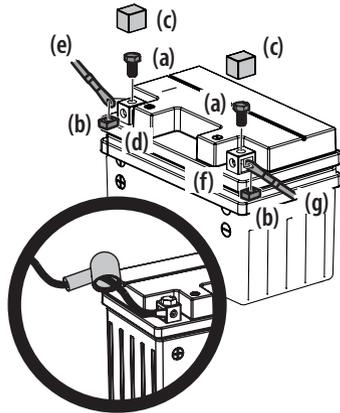

Figure 13
1. Remove the factory installed hex screws (a) and square nuts (b) located either on the end of the wiring harness or in the bag with this manual. Retain the hardware for later instructions. See Figure 13.
2. Remove the plastic cover (c), if present, from the positive battery terminal (d) and attach the red cable (e) to the positive battery terminal (d) with one of the hex screws (a) and square nuts (b), from Step 1. Use a Phillips screw driver. See Figure 13.
3. Position the red rubber boot over the positive battery terminal to help protect it from corrosion. See inset in Figure 13.
4. Remove the plastic cover (c), if present, from the negative battery terminal (f) and attach the black cable (g) to the negative battery terminal (f) with the remaining hex screw (a) and square nut (b). See Figure 13.